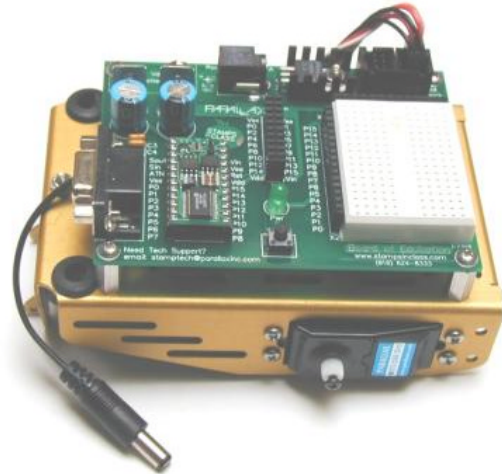

Figure 1.14: BOE attached to chassis.
Figure 1.14 shows the Board of education attached to the Boe-Bot chassis with the servos plugged into the servo ports.
- ❑ Plug the servo that you can see in Figure 1.14 into servo port 12, and plug the other servo into servo port 13.